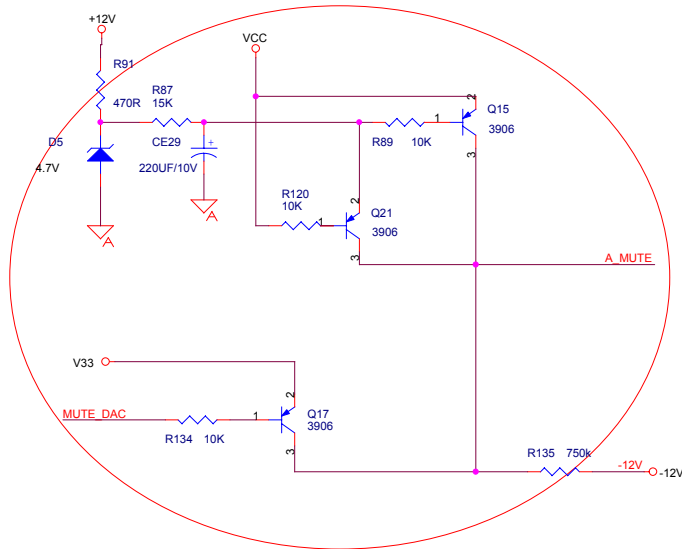

Figure 3.2.11.1 Mute circuit
1. Mute circuit is shown as in the figure 3.2.11.1:
When the player is working normally, shown in the figure 3.2.11.1, MT1389E outputs analog audio signal, and a low level signal to MUTE-DAC at the same time to make Q17 on, B electrode of Q17 is about 2.7V, collector electrode of Q17 is about 3.3V, so Q15 is also on, voltage of B electrode is about 0.7V, voltage of Q21 E electrode is near to zero, Q21 cuts off, MUTE—1 is negative voltage, which is added to base electrode of mute tube of audio output end to make mute tube cut off, and audio signal outputs after being amplified by 4558. When pressing MUTE button on remote controller, MT1389 has no audio signal that outputs to operational amplifier, so audio output end of the player has no audio signal output, but because electronic elements in circuit will produce some noise when working that transmits to output end of the player, in order to filter there noise, decode chip outputs a high level signal to MUTE-DAC to make Q21 cut off, so Q15 cuts off, +5V power is transmitted to base electrode of switch pipe Q15 through EC electrode of Q21, mute circuit is in mute state.
As shown in the figure 3.2.11.1, when the player is working normally, VD206 is on, +5V charges capacitor TC235 through D20, now emitter voltage of Q219 is less than base electrode voltage, Q219 cuts off. When power off, VCC disappears, Q219 base electrode changes into low level, its emitter electrode changes into high level because of discharge, now Q219 is on, Q219 collector electrode (MUTE-OUT) outputs high level to add to base electrode of switch pip Q205-Q206, switch pipe is saturated, noise produces in the course of power off is bypassed to ground, and power-off quieting function is realized.